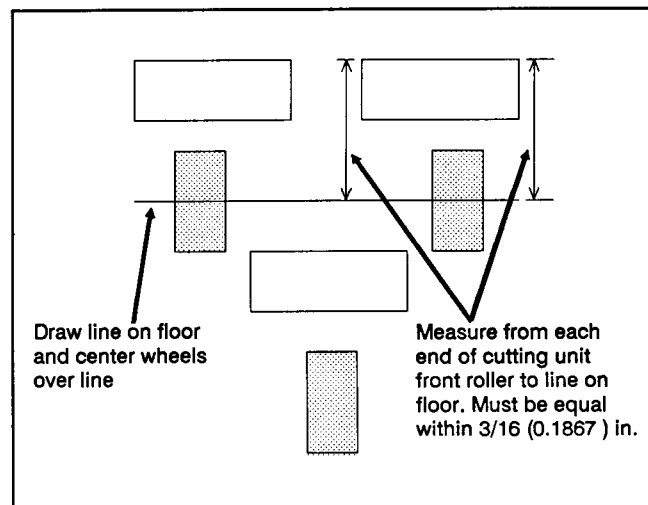

Figure 20b
5. Make sure each of the three (3) cutting units track straight with the traction unit:
A. On a smooth, level surface, draw a straight line on the floor (Fig. 20b). Push traction unit forward (removing slack from pull arms) so center of each front wheel is on top of the line. Use a plumb bob or square to make sure each wheel is centered on the line.